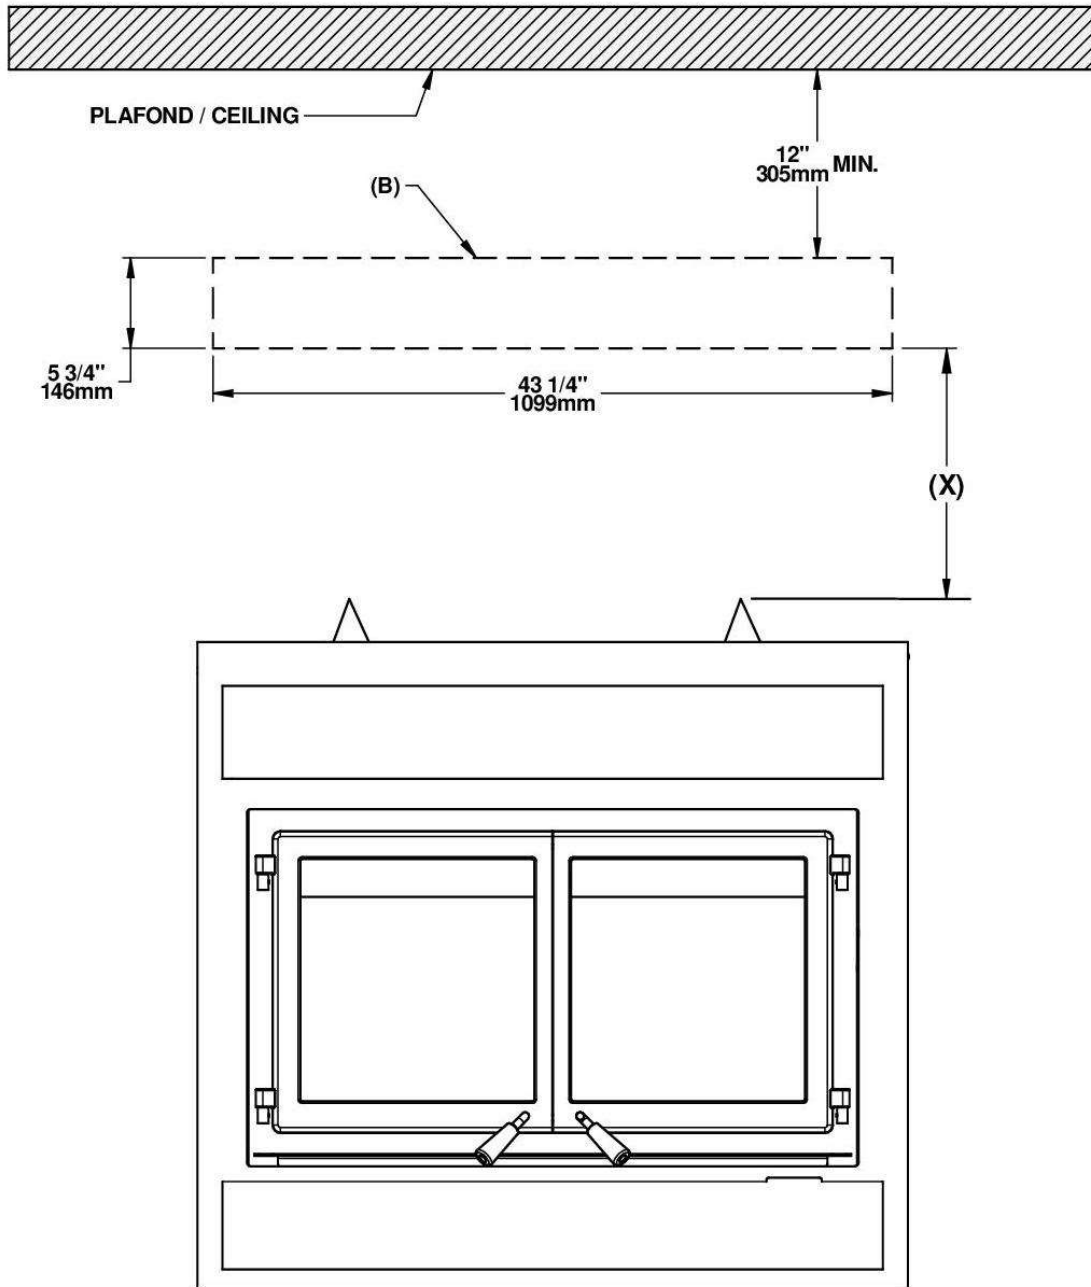

Figure 8 : Grille support location
Position the grille support **(B)** above the fireplace as shown in Figure 8 below.
1. Build a non-combustible frame using the dimensions shown on Figure 8.